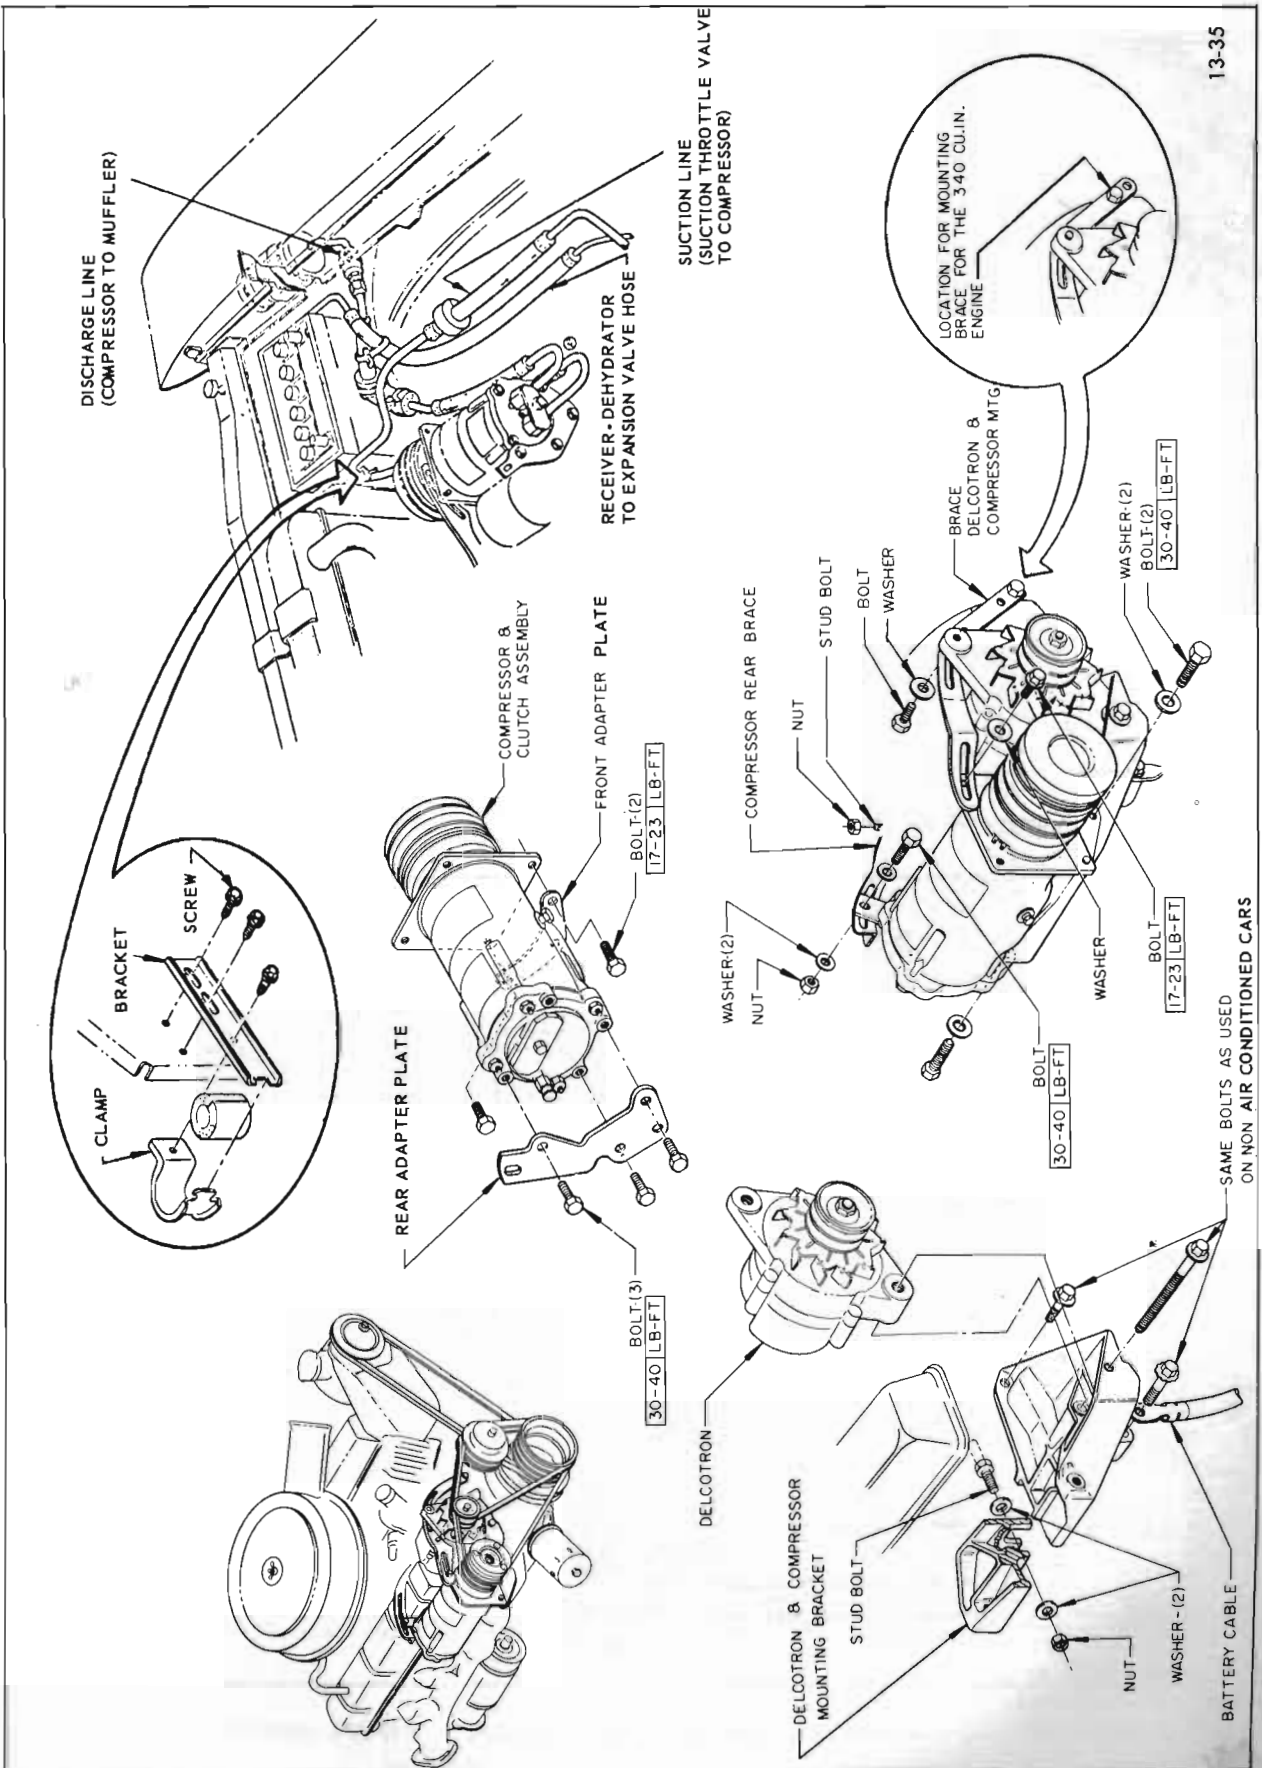

Figure 13-35—Compressor Installation 43-44000 Series
4. Remove bolts in slots of front and rear compressor braces (see Figure 13-35) and tilt compressor inward. Move belt off compressor pulley.
1. Installation is reverse of removal. Torque bolts as specified in Figure 13-35.